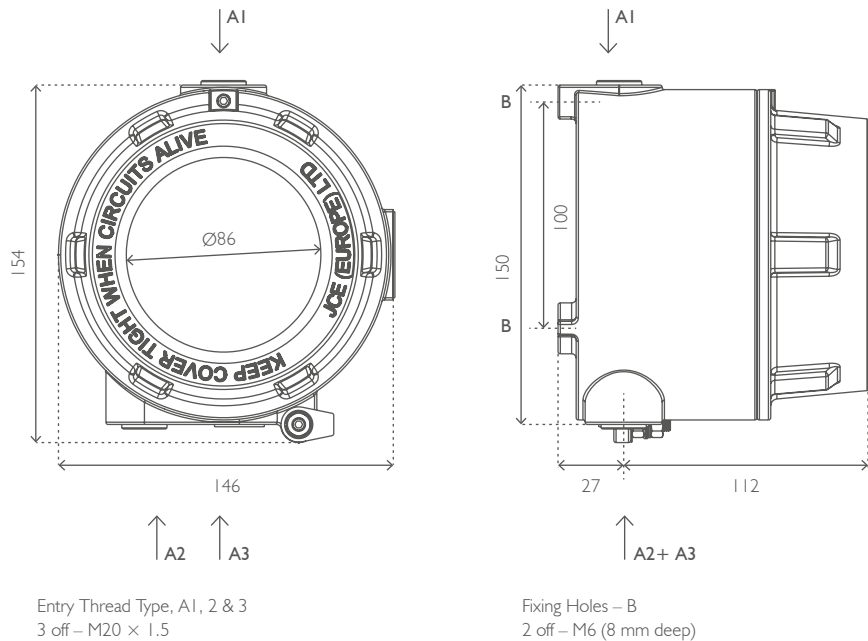

Figure 4. Flameproof flame detector enclosure details (dimensions in mm)
1. The enclosures are supplied with drilled and tapped entries. See enclosure drawing (Figure 4).